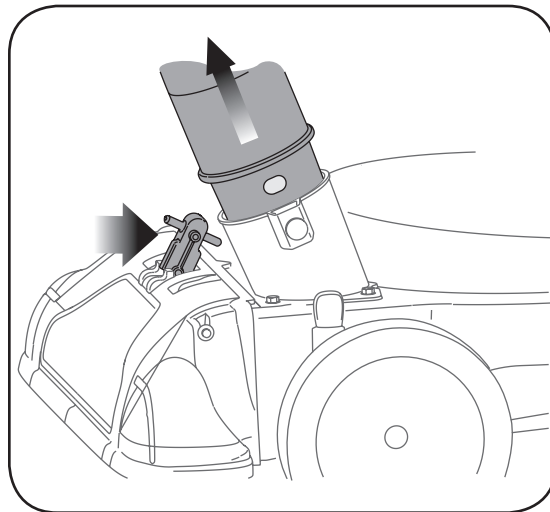

Figure 4-5
1. Place nozzle/hose vac lever in the top position on the nozzle to vacuum through nozzle. See Figure 4-5.